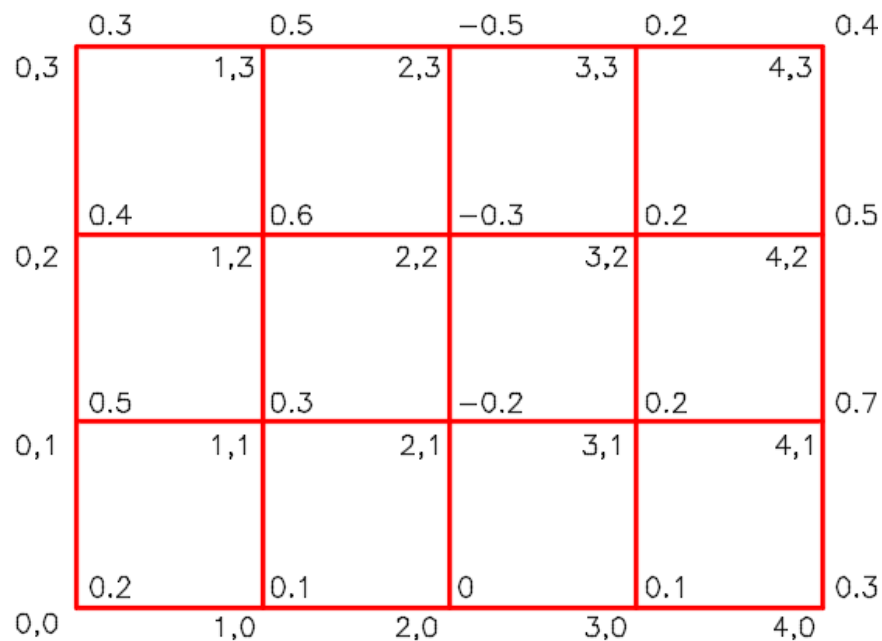
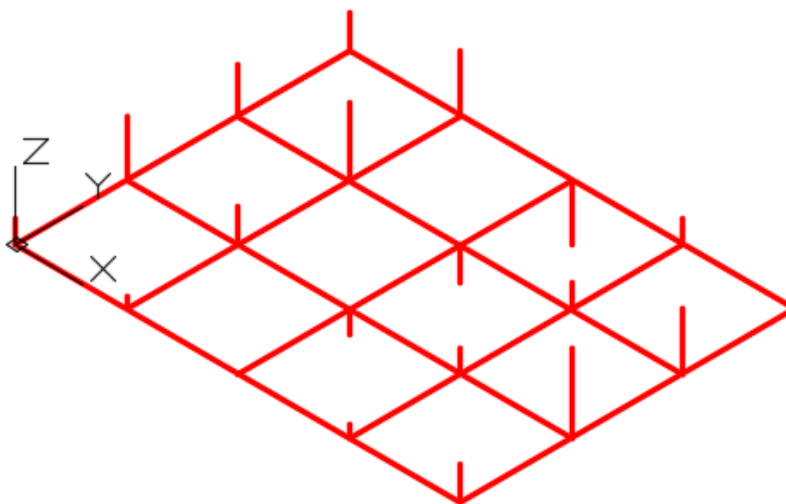

Figure Step 6A
Figure Step 8
Step 6 Set layer: Surface 1 as the current layer and using Figure Step 6A as a reference, enter the 3D MESH command, as shown below, to create the 3D mesh. When complete, your drawing should appear as shown in the figure. (Figure Step 6A and 6B)
Step 8 Turn layer: Surface 1 off and layer: Model on. Set the current layer to: Model. With the UCS set to World, draw lines from the each grid vertex in the Z distance. See Figure Step 6A for the Z value. Be careful as some are positive and some are negative. When the Z is 0, you do not have to draw anything. For example, the line at X0Y0 should be drawn 0.2 inches in the positive Z direction. When complete, the model should appear as shown in figure. (Figure Step 8)